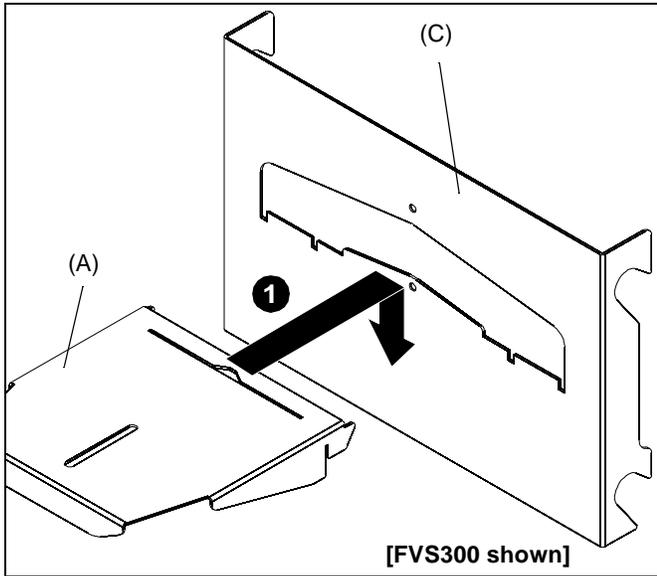

Figure 1
1. Place shelf (A or B) onto shelf mounting bracket (C). (See Figure 1)